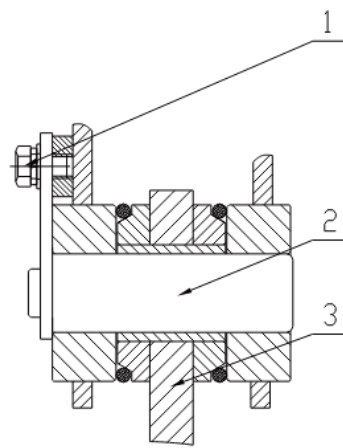

Fig. 2
Loosen the follower bolt of bucket pin shaft (1, fig. 2), then remove the bucket pin shaft (2) and pull out the boom (3).
Tighten the follower bolt of bucket pin shaft (1, Fig. 2).